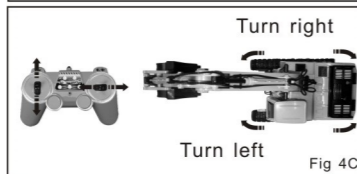

Fig 4C
2. Turn Left/Right: To push the Left Trigger forward/backward, and Right Trigger turns left/right, the truck would turn left/right. The lights on left would be flashed when turn left, the same of right lights when turn right. (Fig 4C)